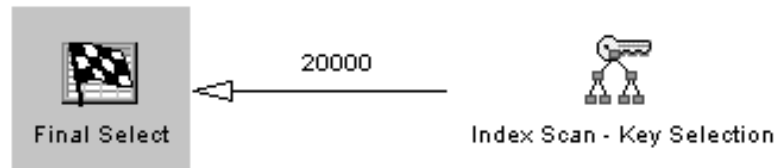

Figure 11. Index Ordering
- __ 3. Verify that the graph you received resembles the example shown in Figure 11.